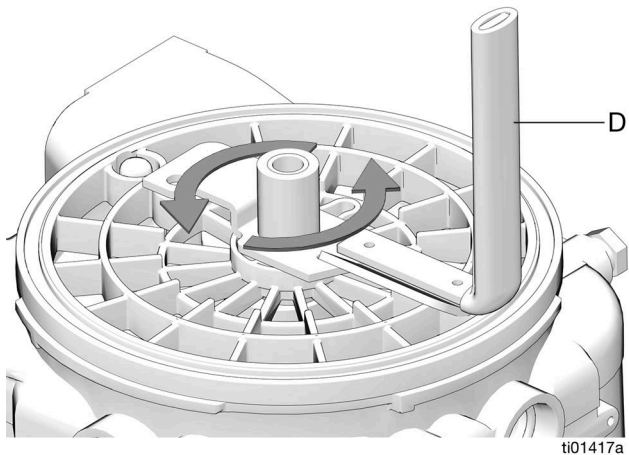

FIG. 8
3. Reinstall paddle (D) by turning it counter-clockwise till tight - hand tighten only (FIG. 8).